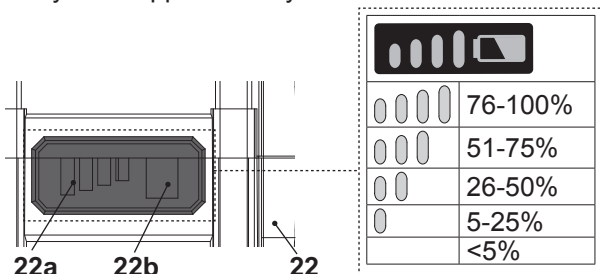

Fig. 11
The battery pack (22) is equipped with the battery capacity indicators (22a) which are used to give an indication of the battery pack's remaining capacity. Press the battery capacity button (22b) to check battery capacity (Fig. 11).